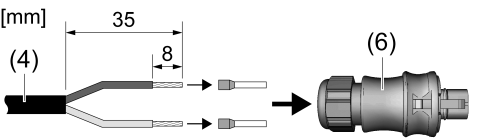

Figure 6: Connection: Plug "Wieland gesis" RST20"
- Please observe the maximum number of luminaires per circuit breaker (9) (see "dimensioning").
- Apply the plug (6) to the connecting cable (4) of the luminaire according to the drawing Connection plug gesis RST20 2-pin (figure 6).
- Wire the luminaire according to connection diagram: Single wiring with connection coupling (7). Linking e.g. with connector for through-wiring (8).